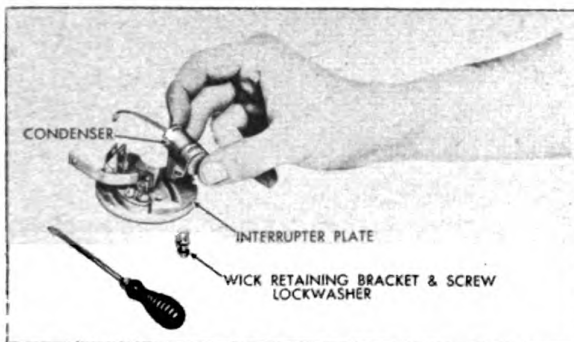

Figure 237. Interrupter Plate Condenser and Wick Assembly.
C. Remove the condenser and wick retaining bracket, withdrawing fastening screw and lockwasher Figure 237.
F. Replace fastening screws and lockwashers and tighten securely. Place interrupter lever with felt wick on pivot pin of interrupter plate. Place interrupter lever washer on pivot pin after interrupter lever has been installed. Replace cotter pin in hole provided on pivot pin. Set condenser on interrupter plate. See Figure 237. Put felt wick retaining bracket and lockwasher on fastening screw and engage hole of condenser bracket. Drive screw into place.